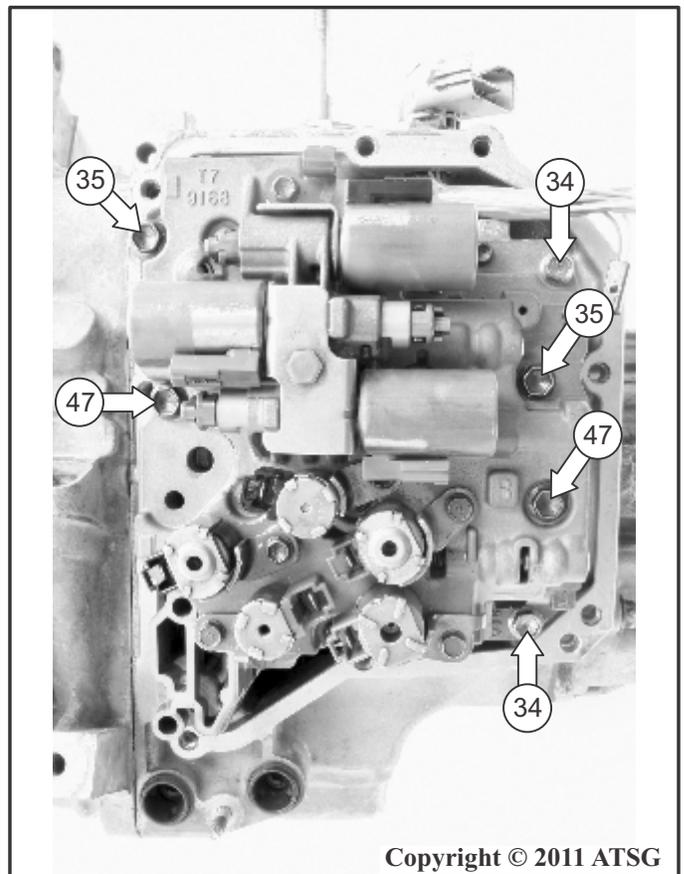

Figure 250
93. Install the two  $M6 \times 1.0 \times 16 \text{ mm}$  (34) bolts and hand tighten as shown in Figure 250.
94. Install the two  $M6 \times 1.0 \times 28 \text{ mm}$  (35) bolts and hand tighten as shown in Figure 250.
95. Install the two  $M6 \times 1.0 \times 55 \text{ mm}$  (37) bolts and hand tighten as shown in Figure 250.